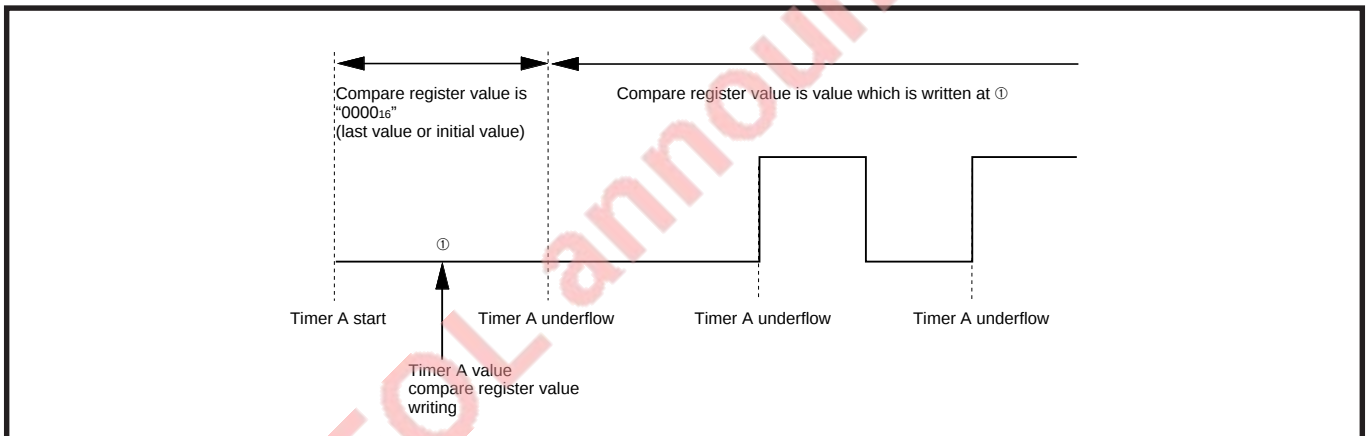

Fig. 3.3.4 PWM output and IGBT output (1)
**Reason:** When data is written to timer A and compare register, value of timer A and value of compare register are renewed at timer underflow. In case of this, compare register value and timer value are compared before renewal so that they are judged to be equal, and TAOUT output becomes "L". (Timer A output switch bit = "0": when starting from "L" output) Timer A underflow should be "H" output, but the match have the priority. (see "Figure 3.3.4")